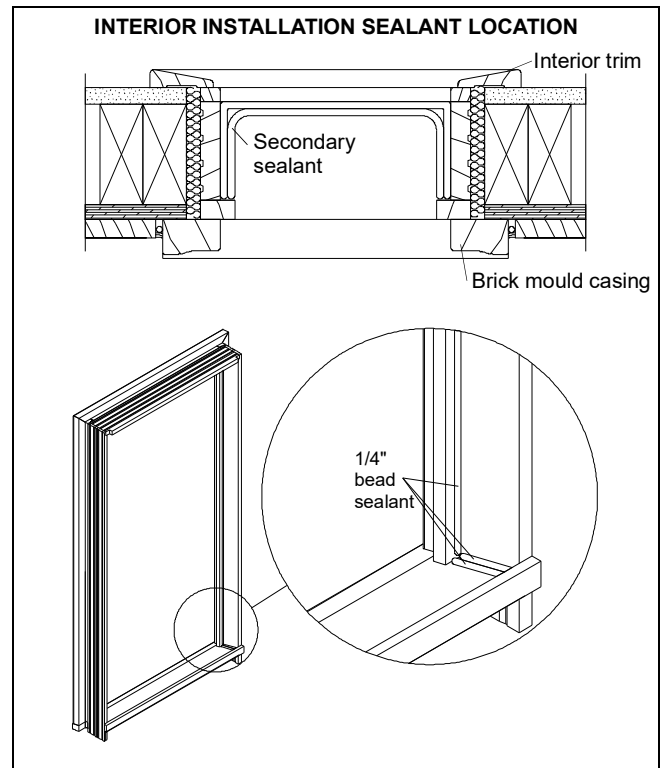

Figure 6
6. Apply a 1/4" (6) bead of sealant at sill to jamb joints, sill to sill liner/stool joints, and on the back of the blind stop of existing window frame. Apply a secondary continuous bead of sealant on sill as shown in figure 6.